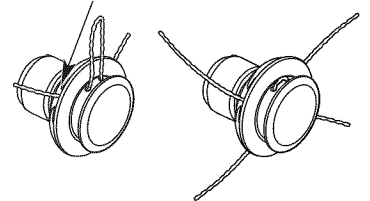

Fig. 17
5. Push and/or pull the line so that the line is snug against the hub and is fully extended through the positioning tunnels (Fig. 17)